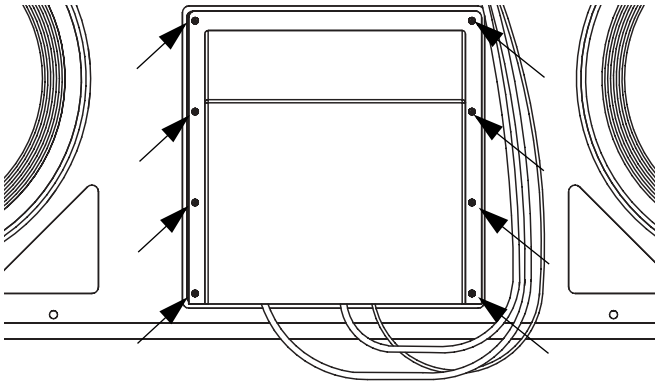

Figure 19. Location of eight screws securing rain hood
1. Using a #2 Phillips screwdriver, remove all eight screws from the rain hood. This will free both the rain hood and the HP-4 electronics module from the M3D cabinet. (Refer to Figure 19.)